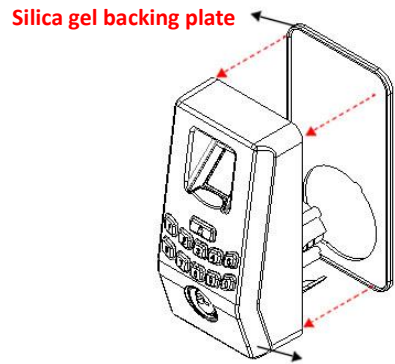

Figure 12
1. Install the Silica gel backing plate on the Front panel Assembly as shown in **Figure 12**.